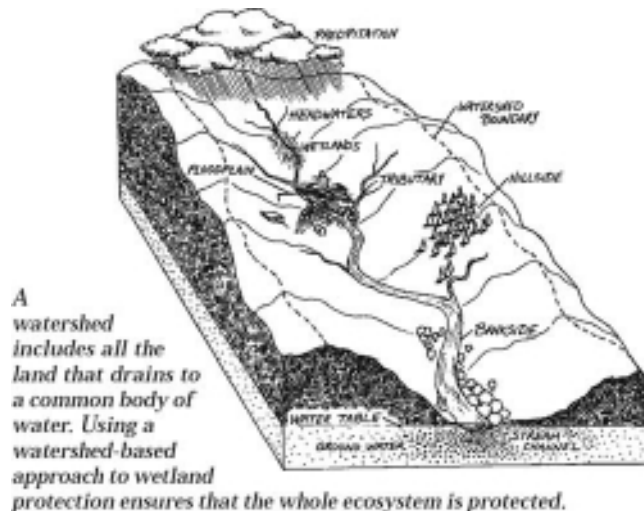

Figure 9.3
Nonpoint source (NPS) runoff has sources harder to precisely identify, thus the term nonpoint. Because of this uncertainty, NPS pollution is harder to control than point source. Just looking at a diagram of a watershed (Figure 9.3) allows you to see the many possible points of origin of a pollutant.
- Think of *watershed*. A watershed is a drainage basin encompassing an area in which rain and other precipitation drains into a particular river or river system (Figure 9.3). It also includes the waters associated with the river – wetlands, aquifers, and estuaries. Basically, all precipitation falling in a watershed flows into one water body. This means that polluted runoff can influence waters distant from its origin.